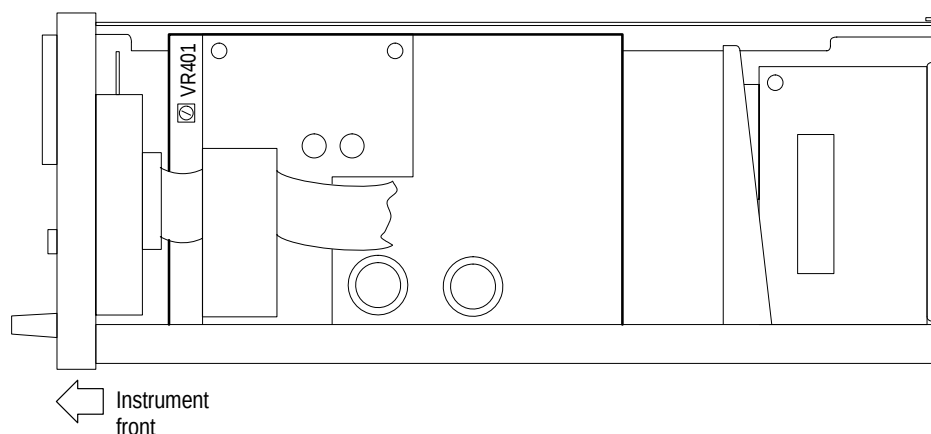

Figure 14: VR401 Adjustment Location
10. Adjust VR401 for a DMM reading of 6.5 V. See Figure 14 for the adjustment location.